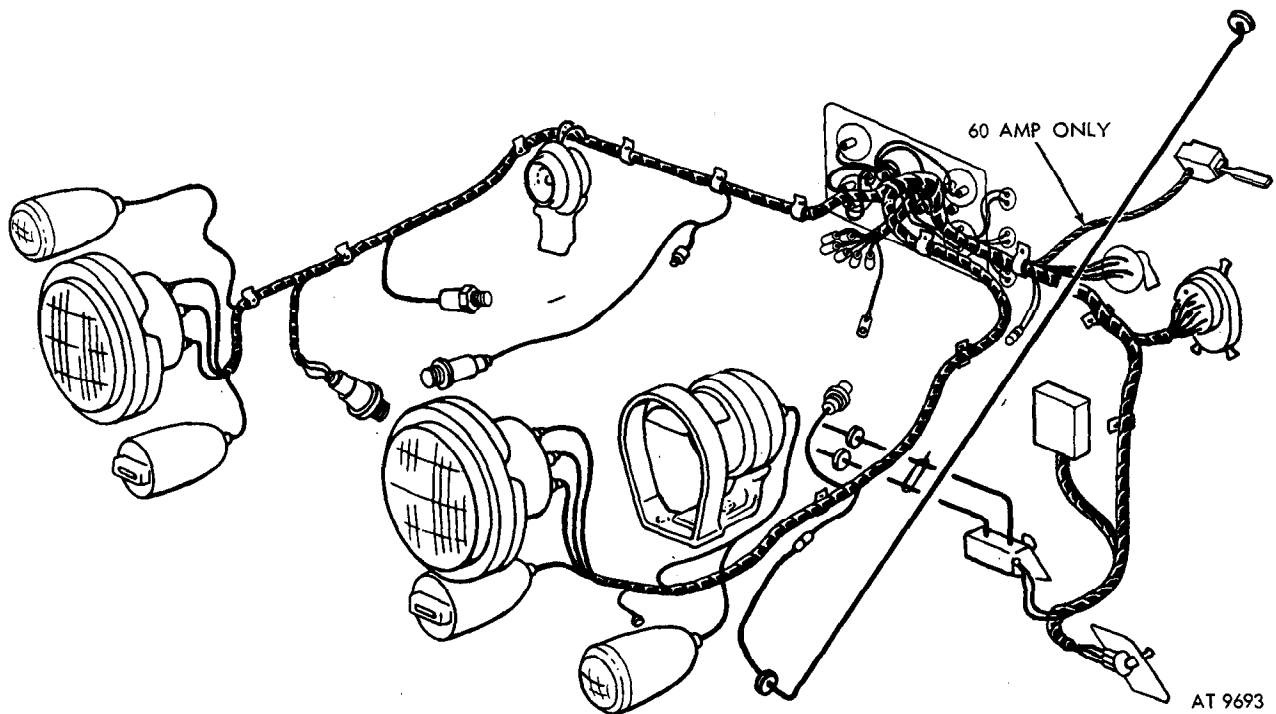

Figure 2-225. Front wiring harness assembly (M151, M151A1, M151A1C, and M718 vehicles).
*b. Removal of Front Wiring Harness (M151, M151A1, M151A1C and M718 Vehicles).* Figure 2-225 shows the front harness assembly and its position in the vehicle.
(1) Remove front seats (para 2-198), battery compartment cover (TM 9-2320-218-10) and transmission tunnel cover (para 2-199)